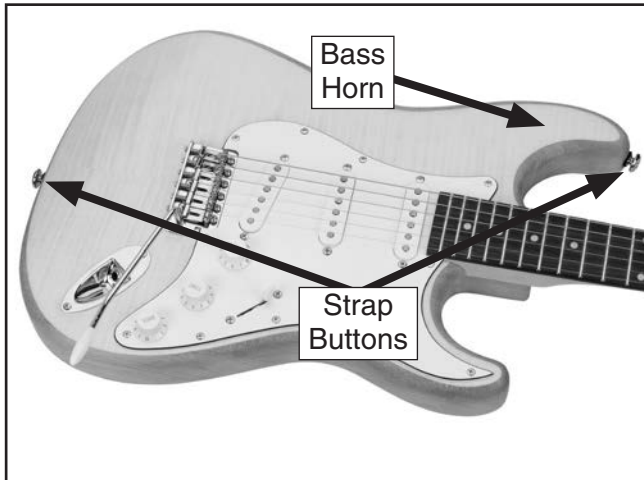

Figure 25. Strap button placement.
The strap buttons are positioned on the guitar as shown in **Figure 25**.
1. Use a 3.5 x 25mm screw to secure each of the strap butt ons to the guitar body, at the end of the guitar and on the bass horn (**Figure 25**).